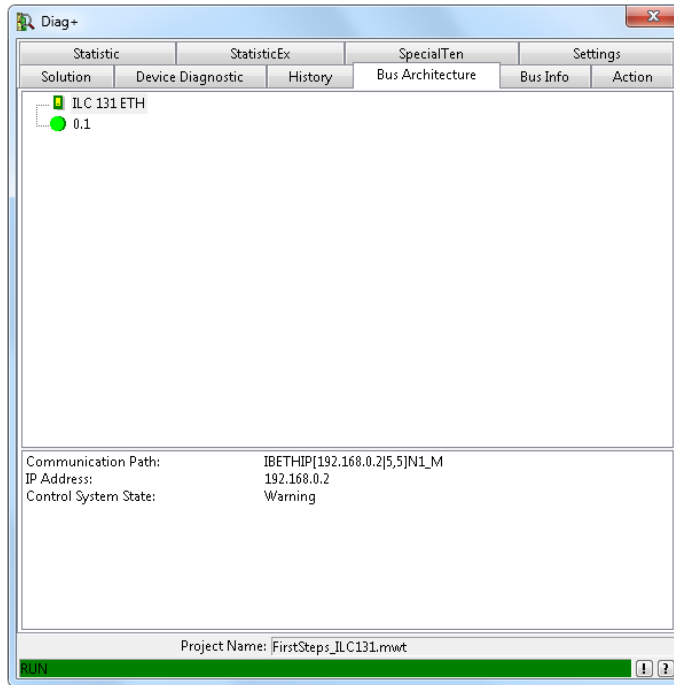

Figure 6-4 “Bus Architecture” tab (no error)
- Select the “Bus Architecture” tab (see Figure 6-4).